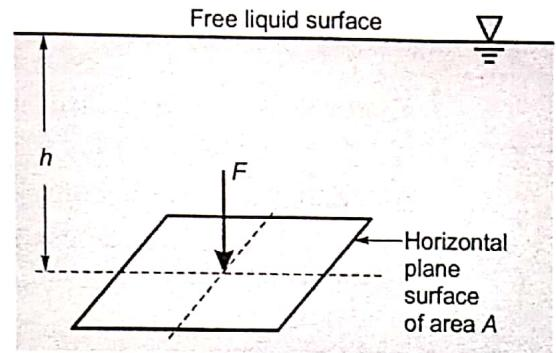

Figure 3.2 Total hydrostatic force on a horizontal plane surface
- Consider a plane surface immersed in a static mass of liquid of specific weight γ , such that it is held in a horizontal position at a depth h below the free surface of the liquid. (Figure 3.2)